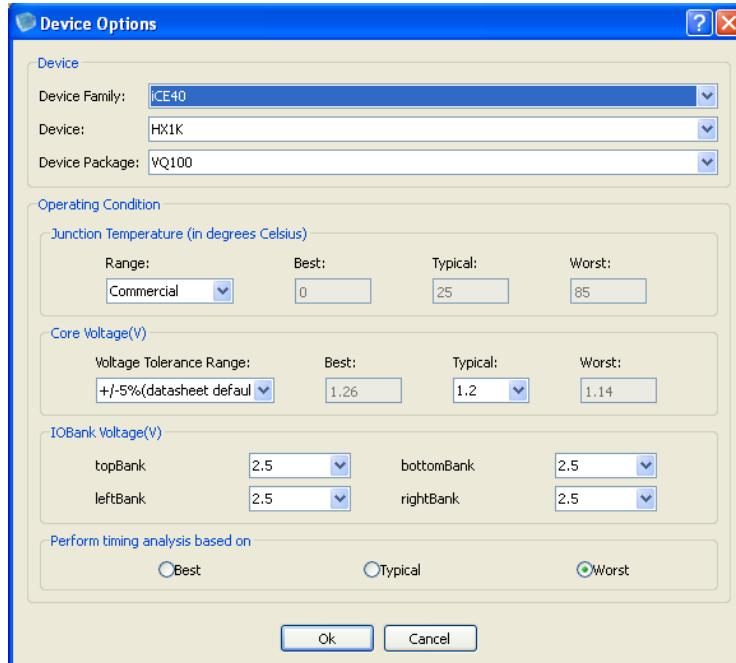

Figure 3-11: Device Options for iCE40 Family
The Device Options dialog box is shown in Figure 3-11.
3. IO Bank Voltage: This option is available only for the iCE40 family as shown in Figure 3-11. Choose a bank voltage from the provided options for the top, bottom, left, right banks. The specified IO Voltage values are used by Power Estimator and Static Timing Analysis tools.